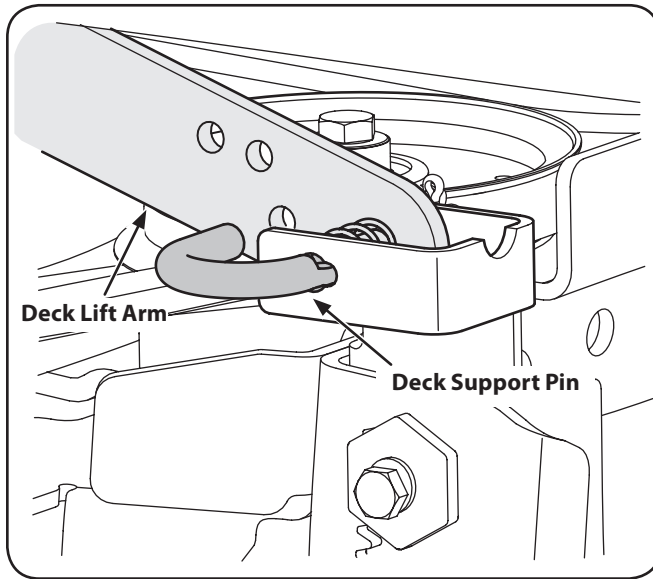

Figure 7-4
- Pull the deck support pin outward to release the deck from the deck lift arm. See Figure 7-4.